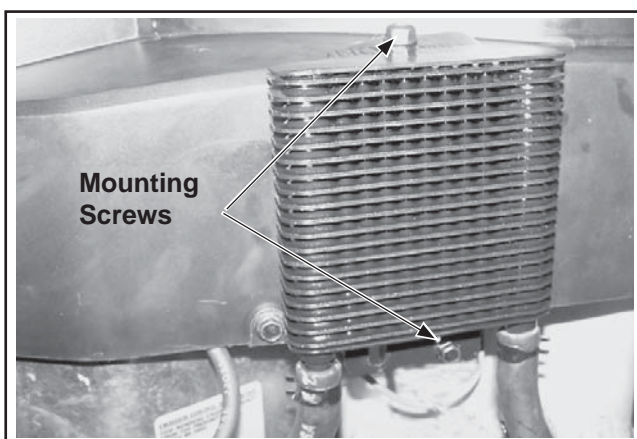

Figure 8-5. Removing Oil Cooler From Blower Housing.
5. If an oil cooler is used remove the mounting screws securing the cooler unit to the blower housing. See Figure 8-5.